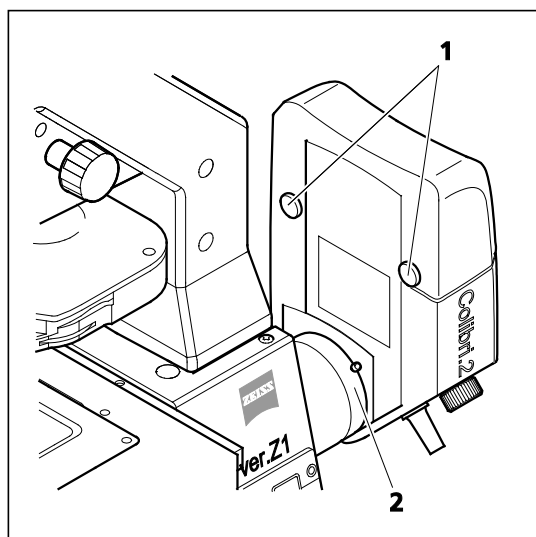

Fig. 5-1 Loosening fastening screws
- Hold the lamp module firmly, loosen the clamping screw at the microscope coupling or at the illumination adapter (Fig. 5-1/2) using the SW 3 ball-headed screwdriver and remove the lamp module.
- Loosen both fastening screws (Fig. 5-1/1) at the lamp module.